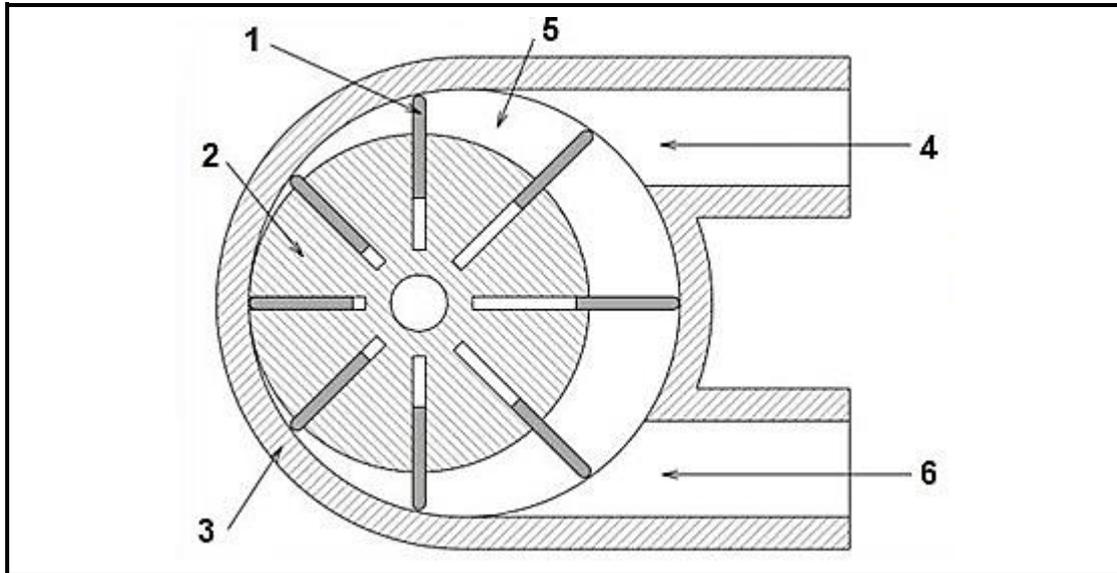

FIGURE 8.1
8.1 The diagram in FIGURE 8.1 below is an engine oil pump. Use it to answer the questions that follow.
- 8.1.1 Identify the type of oil pump in FIGURE 8.1 above. (1)
- 8.1.2 Label the parts 1–6 in the FIGURE 8.1 above. (6)
- 8.1.3 Give TWO advantages of using the oil pump in the FIGURE 8.1 above in motor vehicle. (2)